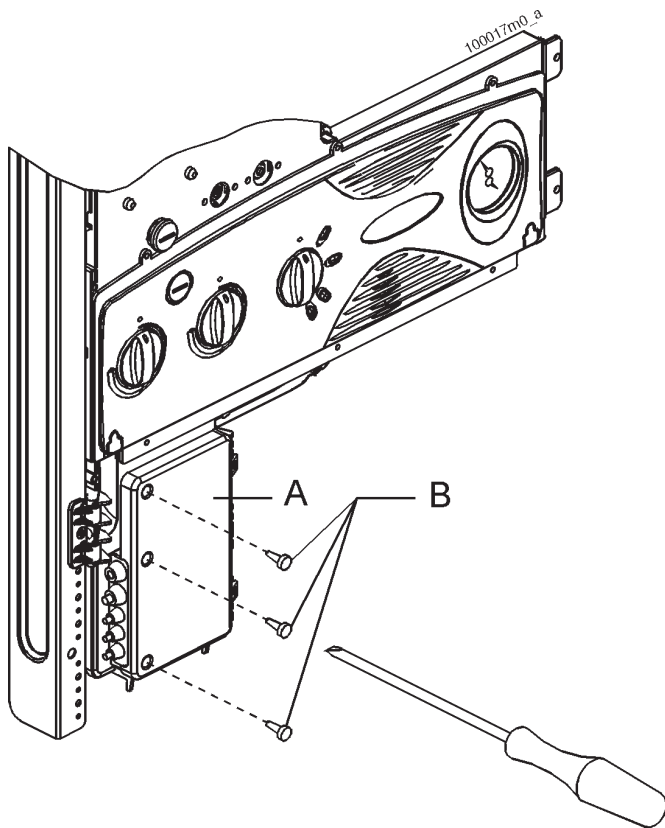

Figure 6 - Opening the electrical connection box
The heater must be connected to a 115V 60Hz, single phase electrical supply fused to 15 amps, An electrical junction box (see figures 6, 7, 8) is provided for connections for both the line voltage of 115V 60 Hz..
To connect the wires of the room thermostat, proceed as follows (refer to figures 6, 7 and 8):
- back off the three screws "B" (see fig. 6) from box "A";
- open the door "A" (see fig. 6);
To connect the electrical power cable, proceed as follows (refer to figures 6, 7, and 8):